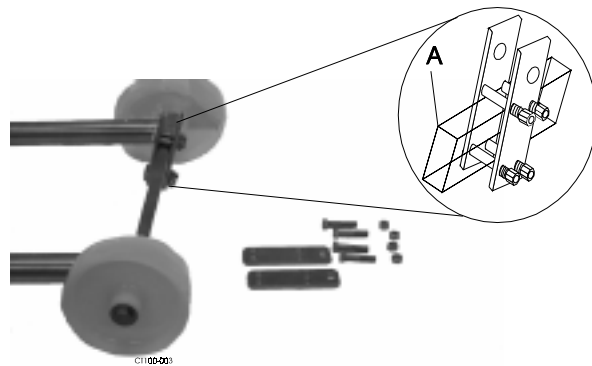

Figure 3. Bracket Assembly
3. Assemble four brackets (loosely) on the handrail base (item A, Figure 3) using four cap screws, 4 nuts and two brackets for each assembly. (see Figure 3).